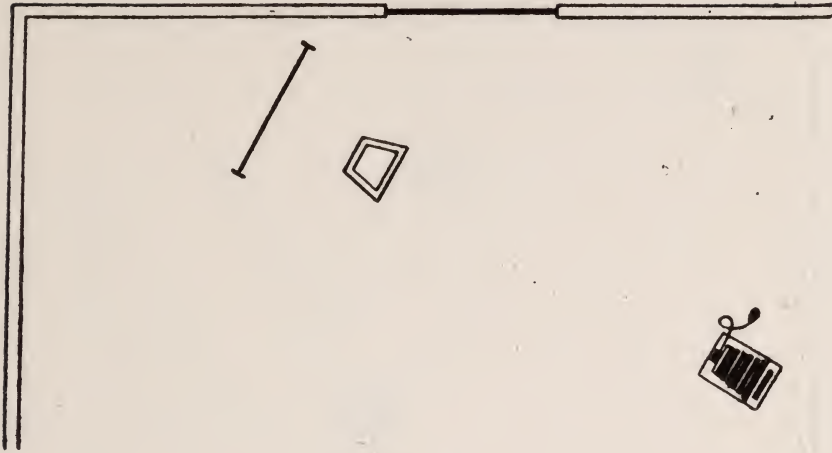

Fig. 5
**Rembrandt Lighting.**— In Fig. 5 we have the arrangement at the same window for the so-called Rembrandt or shadow lighting. Here the sitter is nearer the window than is the camera. The placing of the chair must be experimented with until the most pleasing view is found. As before, the light should be allowed to cross the nose to the shadowed cheek; but the reflector can be dispensed with if the room is small and there is on this account enough diffused reflected light to allow one to see the color of the skin in the deepest shadow. If not,